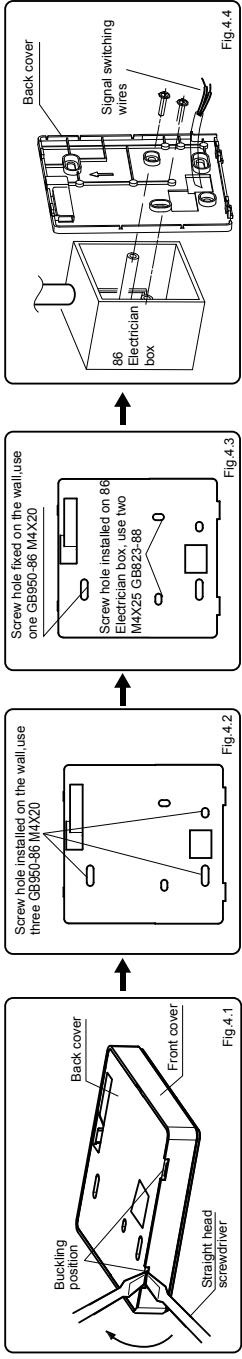

Fig.4.1
- Use straight head screwdriver to insert into the buckling position in the bottom of wire controller, and spin the screwdriver to take down the back cover. (Pay attention to spinning direction, otherwise will damage the back cover!) (Fig.4.1)